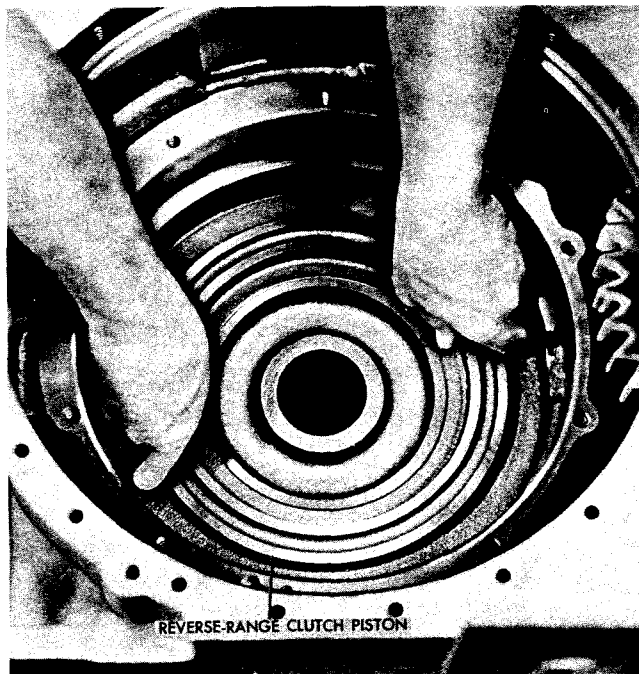

Fig. V-29. Removing (or installing) reverse-range piston
(3) Remove the reverse clutch piston and seal rings (fig. V-29).